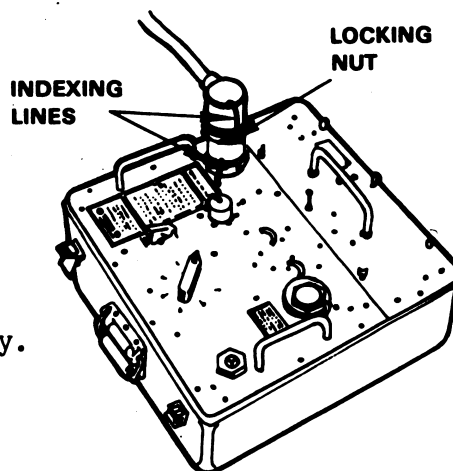

Figure 11. Alinement of indexing lines and locking nut.
b. Pull the coil cord from under the traversing unit and aline the indexing lines on the connecting plug and the J1 connector (fig. 11). Push down to seat the connecting plug on the J1 connector and tighten the locking nut.